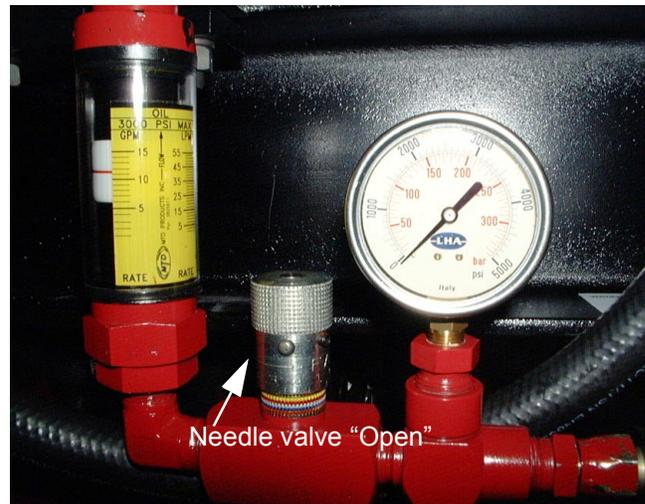

Figure 1
1. Make certain the needle valve is fully open. _____ See Figure 1.